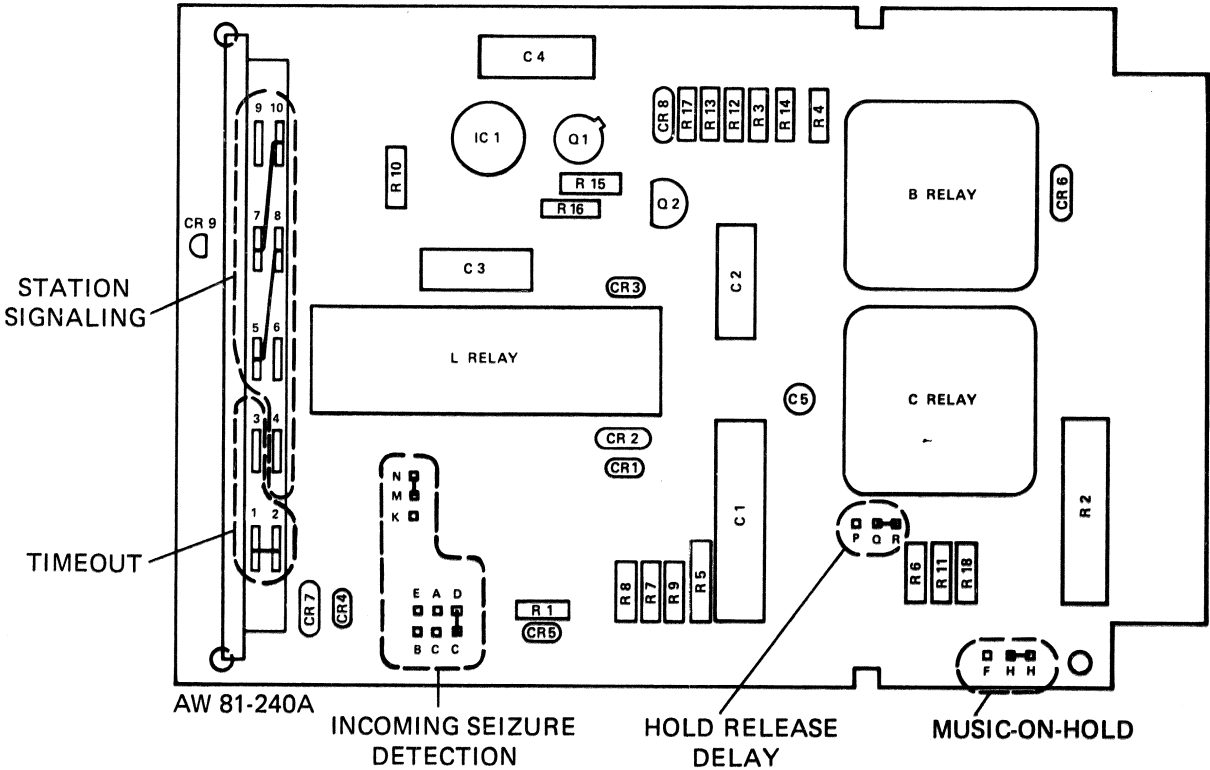

Figure 2: 400E KTU Strapping (Factory equipped straps shown)
3.01 Each 400E KTU in the Key Service Unit should be strapped for the options desired per Table A and Figure 2. (For a more complete description of the options available, see Section 36-400-101.)